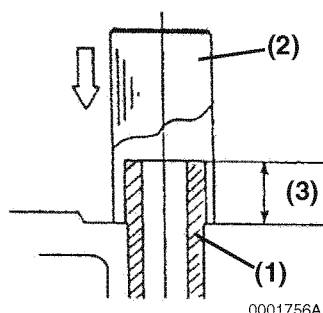

Figure 6-25
3. Finish installing the valve guides (Figure 6-25, (1)) into the cylinder head to the proper height (Figure 6-25, (3)) using the valve guide installation tool (Figure 6-25, (2)). See *Intake / Exhaust Valve and Guide* on page 6-3.